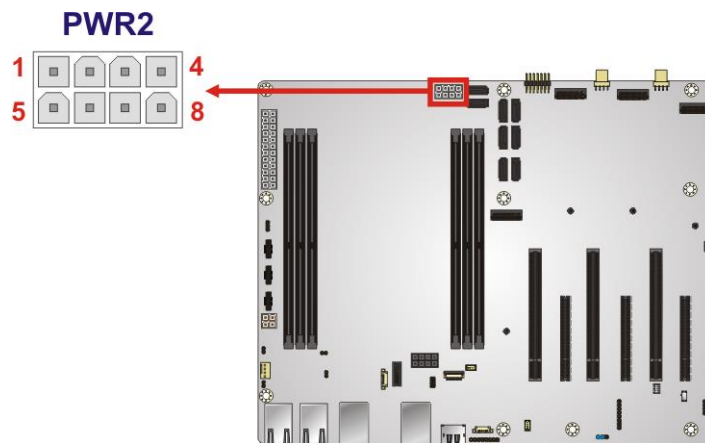

Figure 3-6: CPU Power Connector Pinout Location
3.2.5 CPU Power Connector (1)
- CN Location:** See **Figure 3-6**